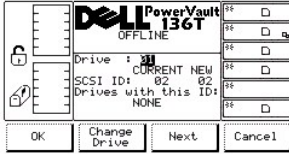

Figure 70. Setup > Drives > SCSI Dialog
When SCSI is selected, the SCSI Dialog is displayed. See Figure 70. This option allows the user to set the SCSI ID of the drive.
Refer to the Table associated with Figure 70.
- 1 If the button beneath the **Next** softkey is pressed, the Drive field is made the active field. Refer to Figure 70.